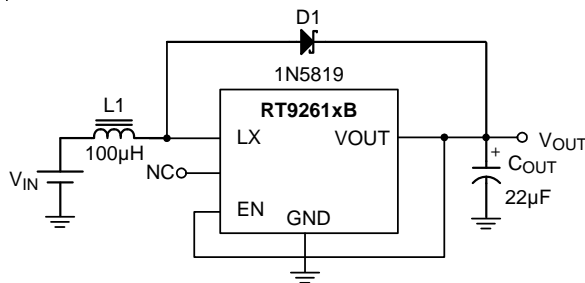

Figure 3
**Electrical Characteristics** (Refer to Figure 3)